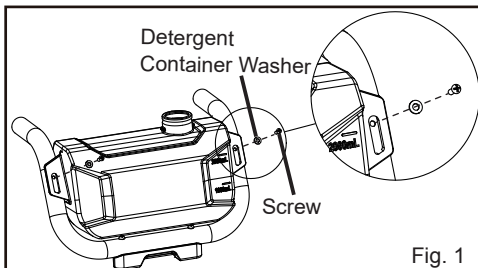

Fig. 1
- Attach the detergent container onto the bottom rack. Attach a detergent container washer onto the hole located on the bottom rack, then insert a screw to the hole. Tighten the screw using a Phillips screwdriver. Repeat the same steps on the other side of the detergent container (Fig. 1).